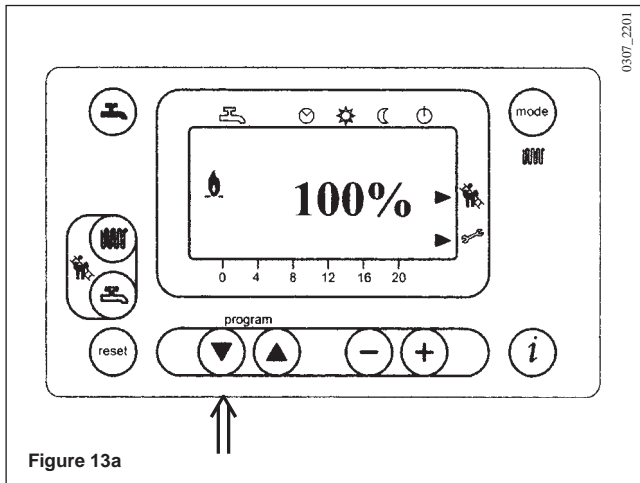

Figure 13a
- Switch on the boiler, activating the “setting function” from the control panel by pressing and holding the  and  keys simultaneously until the ► symbols are displayed, positioned as illustrated in figures 13a and 13b.
- Press the  key to set the maximum heat output, with the display showing 100% (figure 13a).